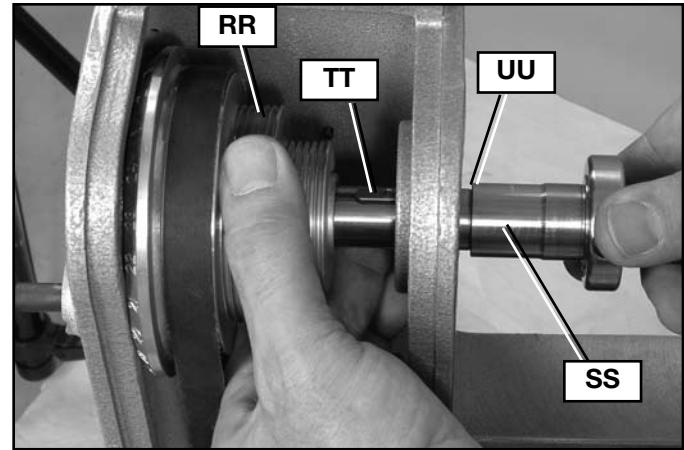

Fig. 35
11. Place spindle pulley (RR) inside headstock (as shown in Fig. 35) and hold as you insert the spindle shaft (SS) through headstock and pulley. Take care to align the shaft key (TT) with the pulley keyway (not shown).
12. Be sure the pulley seats firmly against the shaft shoulder (UU).